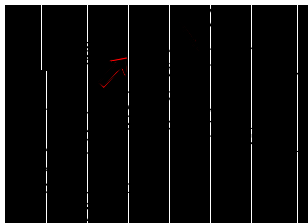

Figure 2.- Battery removal.
The battery is accessible from the rear of the instrument. To disconnect the battery, press the flange located at the bottom (1) and proceed to separate the battery from the instrument body (2). The battery will come away from its housing. Then slide it out, as shown in figure 2.